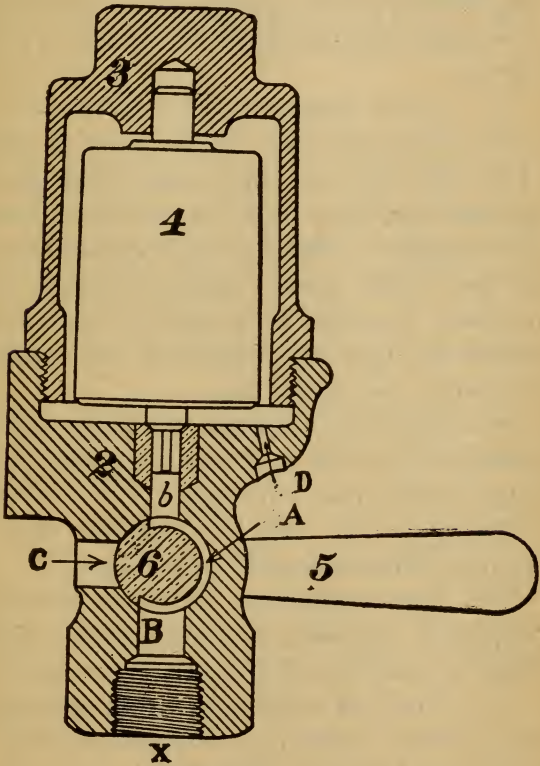

Fig. 37.
A. That is determined by the weight of valve 4 shown in Fig. 37. Usually fifteen pounds per square inch.
A. A pipe is screwed into the triple valve exhaust port which connects with the pressure retaining valve at X in Fig. 37. If the handle 5 be turned down the valve will be inoperative, the air passing through ports B, A and C to the atmosphere, but when the handle is turned horizontally, as shown, then the air will pass from the brake cylinder through the triple valve, retaining valve pipe and ports B, A, b and D, and it must therefore raise valve 4 from
Q. What difference is there between the improved pressure retaining valve shown by Fig. 37 and the old style retaining valve?
A. It should always stand perpendicular as shown by Fig. 37. Both the valve and the pipe should be well secured and a good rubber placed on the union. A little flexibility should be provided in the pipe connecting this valve with the triple valve.